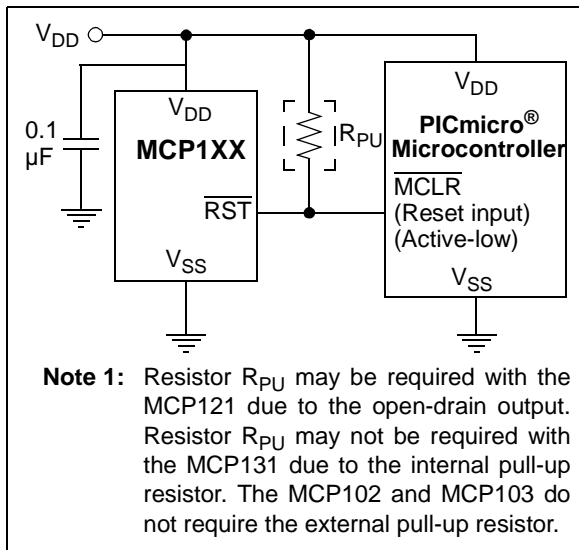

FIGURE 4-1: Typical Application Circuit.
**Note:** Unless otherwise indicated, all limits are specified for:  $V_{DD} = 1V$  to  $5.5V$ ,  $R_{PU} = 100\text{ k}\Omega$  (MCP121 only); see Figure 4-1),  $T_A = -40^\circ\text{C}$  to  $+125^\circ\text{C}$ .
**Note:** Unless otherwise indicated, all limits are specified for:  $V_{DD} = 1V$  to  $5.5V$ ,  $R_{PU} = 100\text{ k}\Omega$  (MCP121 only; see Figure 4-1),  $T_A = -40^\circ\text{C}$  to  $+125^\circ\text{C}$ .
**Note:** Unless otherwise indicated, all limits are specified for:  $V_{DD} = 1V$  to  $5.5V$ ,  $R_{PU} = 100\text{ k}\Omega$  (MCP121; see Figure 4-1),  $T_A = -40^\circ\text{C}$  to  $+125^\circ\text{C}$ .
For many of today's microcontroller applications, care must be taken to prevent low-power conditions that can cause many different system problems. The most common causes are brown-out conditions, where the system supply drops below the operating level momentarily. The second most common cause is when a slowly decaying power supply causes the microcontroller to begin executing instructions without sufficient voltage to sustain volatile memory (RAM), thus producing indeterminate results. Figure 4-1 shows a typical application circuit.
A 0.1  $\mu\text{F}$  bypass capacitor, mounted as close as possible to the  $V_{DD}$  pin, provides additional transient immunity (refer to Figure 4-1).